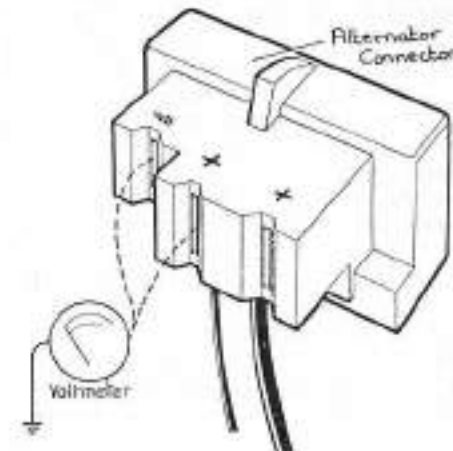

Fig. 78—View showing method of checking cable continuity.
**133. TESTING.** Prior to beginning test, be sure battery is fully charged, all leads are connected, clean and tight, and that alternator drive belt is properly adjusted. Check cable continuity as follows: Remove connector plug from alternator, turn switch to "ON" position and using a voltmeter, check to see that battery voltage is present at both "IND" and "POS" (+) terminals of connector. See Fig. 78. Failure to show battery voltage at either terminal indicates a broken circuit which must be corrected before proceeding. No voltage at "IND" terminal could be caused by a failed warning light bulb.